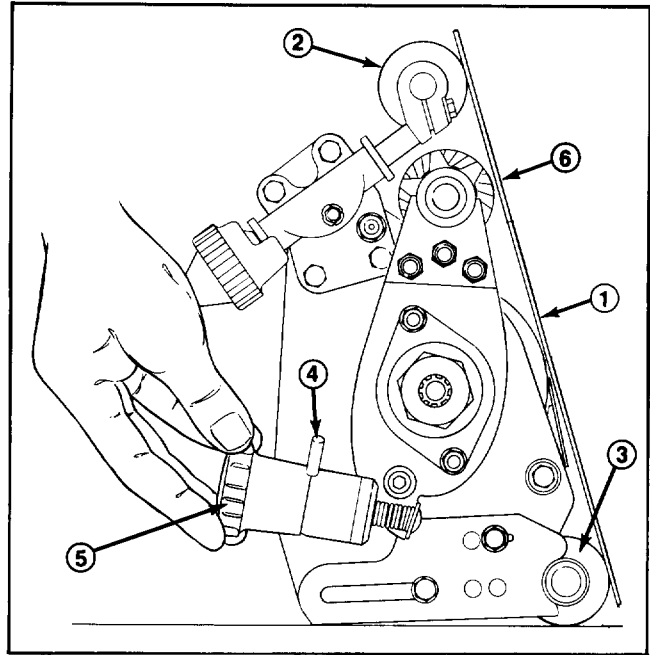

Figure 10
1. Make sure the rollers are clean and main reel is set to desired height of cut. Turn cutting unit over and position on work surface (Fig. 10).
2. Hold the clutch snubber down and rotate the clutch knob clockwise to disengage the clutch (Fig. 10). Then, rotate both Quick Up Levers to lower the grooming reel into grooming position (Fig. 10).
3. On one end of cutting unit, place a gauge bar across the front and rear rollers. Measure the distance from the lowest tip of a groomer blade to the gauge bar (Fig. 10). Lift and turn the micro adjustment knob (Fig. 10) to raise or lower blade tip. Each notch on the micro adjustment knob is equal to approximately .007 inch of groomer depth.